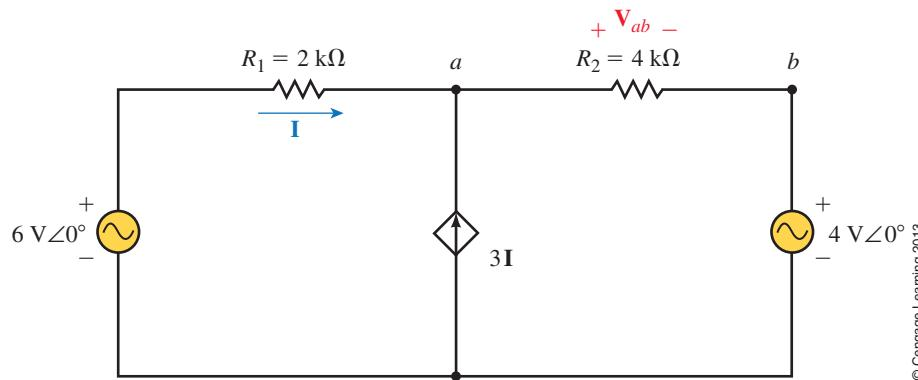

FIGURE 20-78
17. Determine the voltage \mathbf{V}_{ab} for the circuit of Figure 20-78.